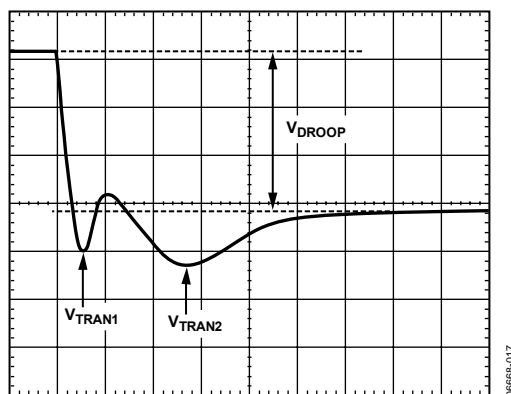

Figure 16. Transient Setting Waveform
18. With the dynamic load still set at the maximum step size, expand the scope time scale to either 2 $\mu\text{s}/\text{div}$ or 5 $\mu\text{s}/\text{div}$. The waveform can have two overshoots and one minor undershoot (see Figure 16). Here, V_{DROOP} is the final desired value.